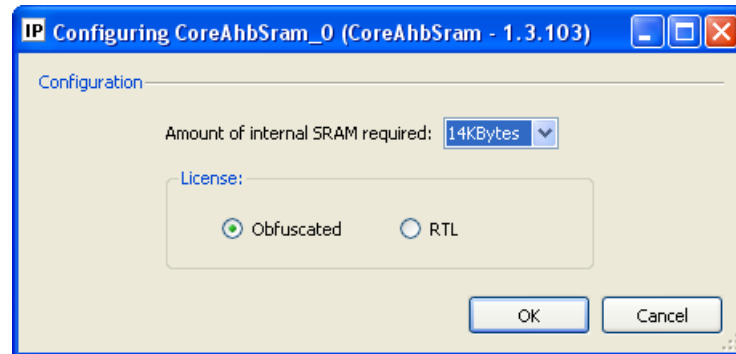

Figure 3-10 • Configuring CoreAhbSram
2. Instantiate and configure **CoreAhbSram version 1.3.103** with a size of 14 Kbytes. The CoreAhbSram settings window is shown in Figure 3-10.